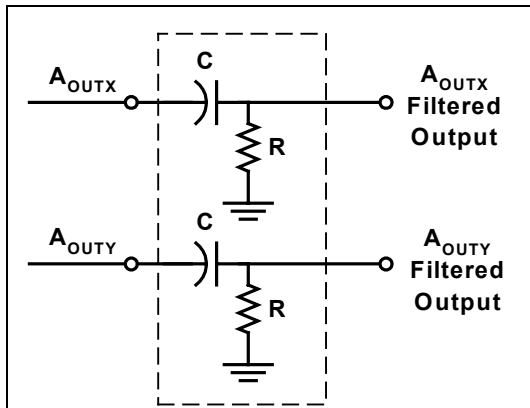

Figure 3: High Pass Filter
**AC Coupling:** For applications where only dynamic accelerations (vibration) are to be measured, it is recommended to ac couple the accelerometer output as shown in Figure 3. The advantage of ac coupling is that zero g offset variations from part to part and zero g offset change over temperature can be eliminated. Figure 3 is a HFP (high pass filter) with a  $-3\text{dB}$  breakpoint given by the equation:  $f = \frac{1}{2\pi RC}$ . In many applications it may be